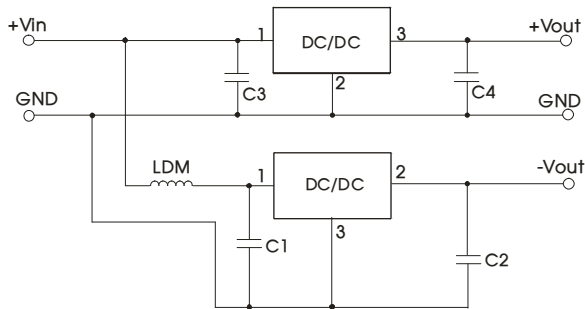

Fig. 3 Positive and negative output application circuit
3. When using configurations as shown in figure 3, we recommended to add an inductor (LDM) with a value of up to 10 μ H which helps reducing mutual interference.
5. Connecting a "LC" filter at the converter output helps to further reduced the output ripple. The recommended inductor value (L) is 10 μ H-47 μ H.